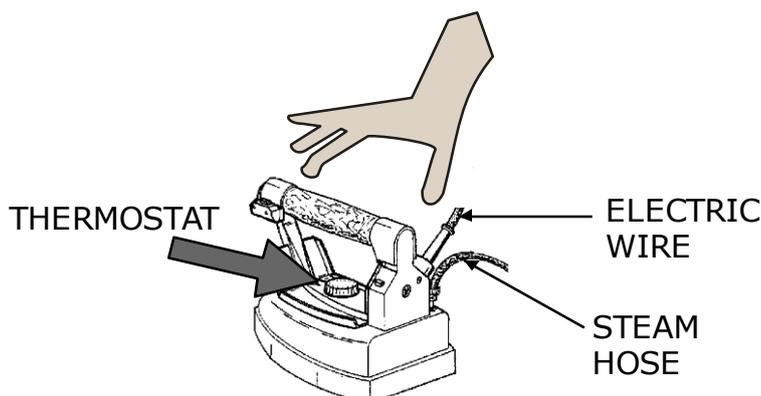

Fig. 2
3. Switch on the boiler and the iron switch and adjust the thermostat of the iron (fig. 2) on "cotton".
4. For dry ironing it is possible to adjust the thermostat (fig. 2) on different positions according to the type of fabric (look at garment label). For steam ironing set the thermostat on "cotton" or "linen" " (**N.B.:** the thermostat of TULIPANO irons must be set between "wool" and "cotton").
6. iron overheating or loss of water from the iron (fig 2);
7. washing or cleaning the iron using water (fig. 2);